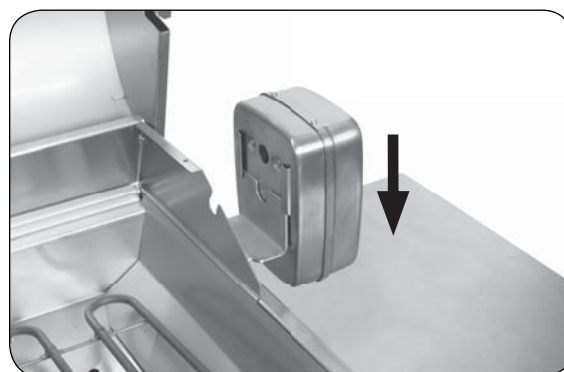

Fig. 17-3 Install rotisserie motor
2. Slide the rotisserie motor fully onto the motor bracket located on the right of the grill (Fig. 17-3).